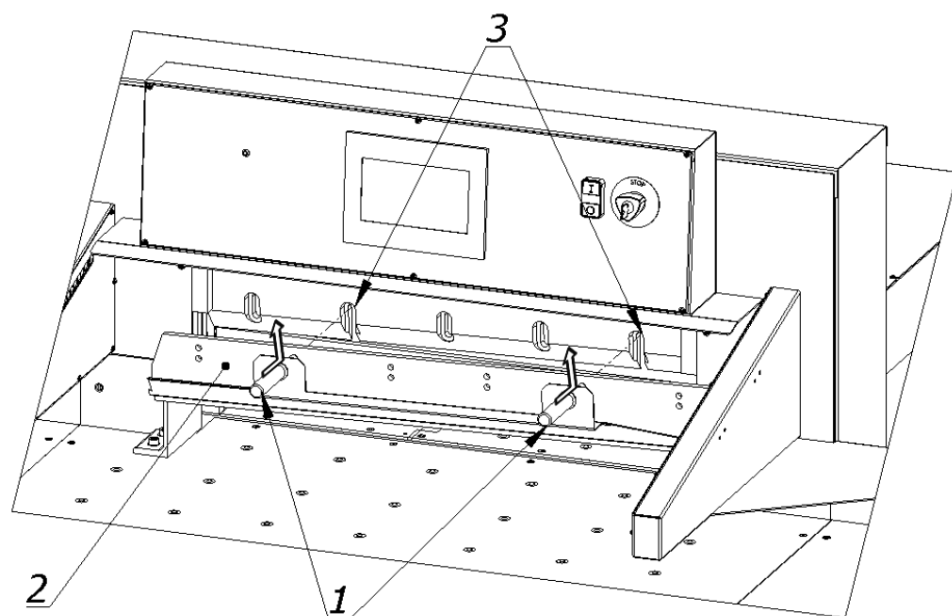

Figure 31.
8.1.2.3. Holding the transport handles (1), insert the knife 2 into the cutter so that the transport handles screwed into the knife hit the cutouts in the cutter bar (3, Fig. 31)